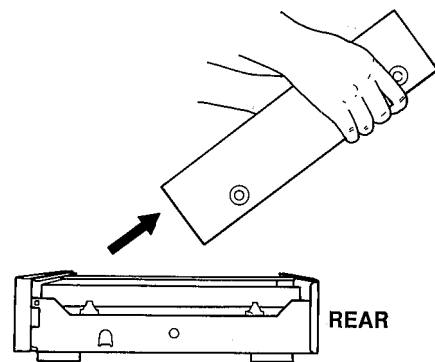

Fig. 4
d. Pull off the Top Cover diagonally as shown in Fig. 4.